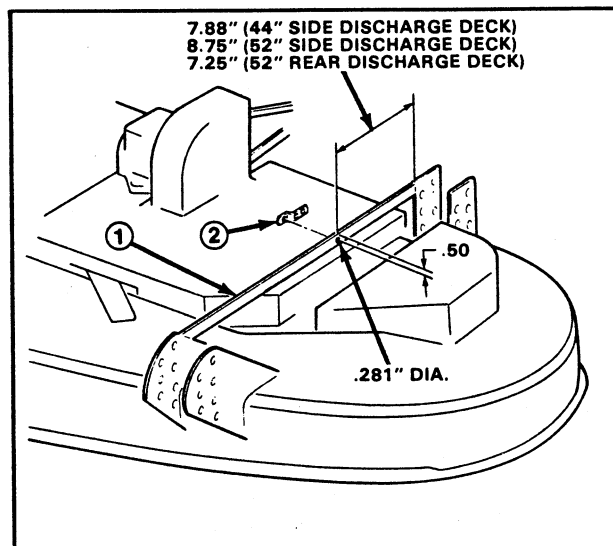

Figure 1
**Note:** Dimensions shown in Figures 1 and 2 pertain to both 44" and 52" cutting units unless otherwise specified. Use appropriate dimensions when locating holes. Cutting units with serial numbers of 60001 and up may already have mounting holes drilled.
1. Using dimensions shown in Figure 1, locate and drill (2) .281" dia. holes in cutting unit deck support bars (one in each side).
3. Position anchor bracket on inside of deck support bar, aligning front hole with drilled hole (Fig. 1).
4. Using anchor bracket as a template, mark and drill (2) .281" dia. holes in each deck support bar. Clevis pin may be used to align holes when marking.
5. Mount anchor bracket to the inside of each deck support bar with (2) round head screws and locknuts. Position screw heads toward outside of deck.